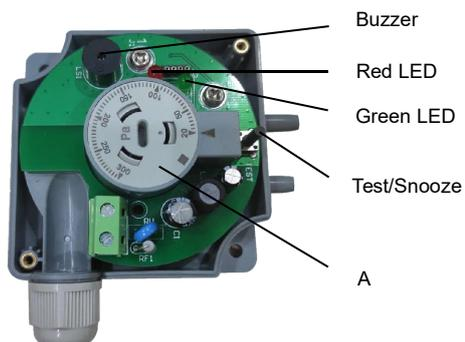
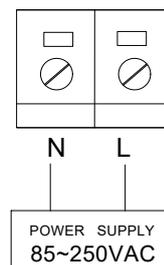

Fig. 5
Fig. 6
(1) The switch body as Fig. 5 is under the front cover.
- screw the printed scale dial (A in Fig. 5) to the required set point. It should be operated with a straight screw driver. When rotating the dial, the screwdriver should be vertical to the dial, lightly rotate the dial to prevent the dial from loosening due to improper operation.
(3) Finish the electrical connection and restore the front cover
- Feed the cable into the switch through the cable entry and connect to the screw terminals N and L, as Fig. 6. There is an O-ring inside the entry to keep the seal.